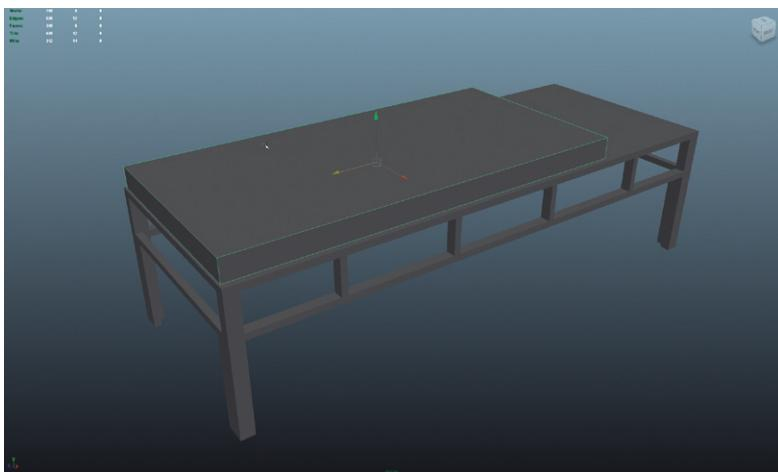

FIG 3.62 Roughing out the mattress with a polygonal cube.
Step 22: Create a rough mattress from a cube. Create a polygonal cube and scale it roughly as shown in Fig. 3.62.